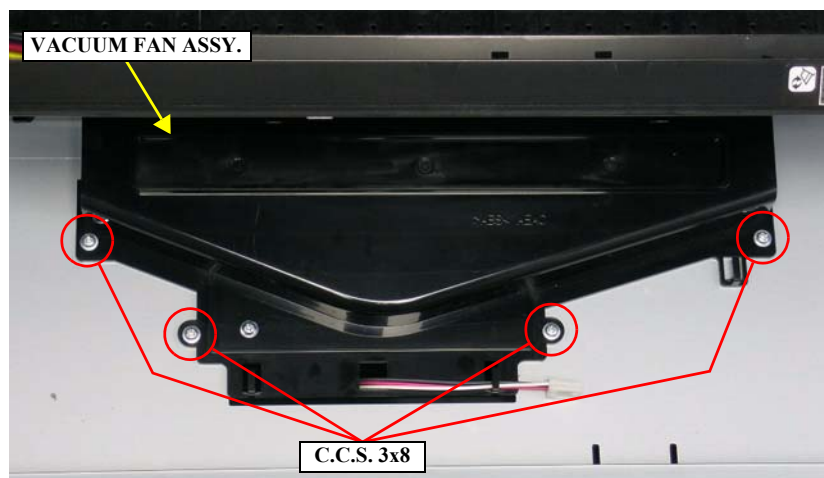

Figure 4-79. Screws Securing the VACUUM FAN ASSY.
9. Remove the four screws that secure each of the three VACUUM FAN Assies. *See Figure 4-79.*